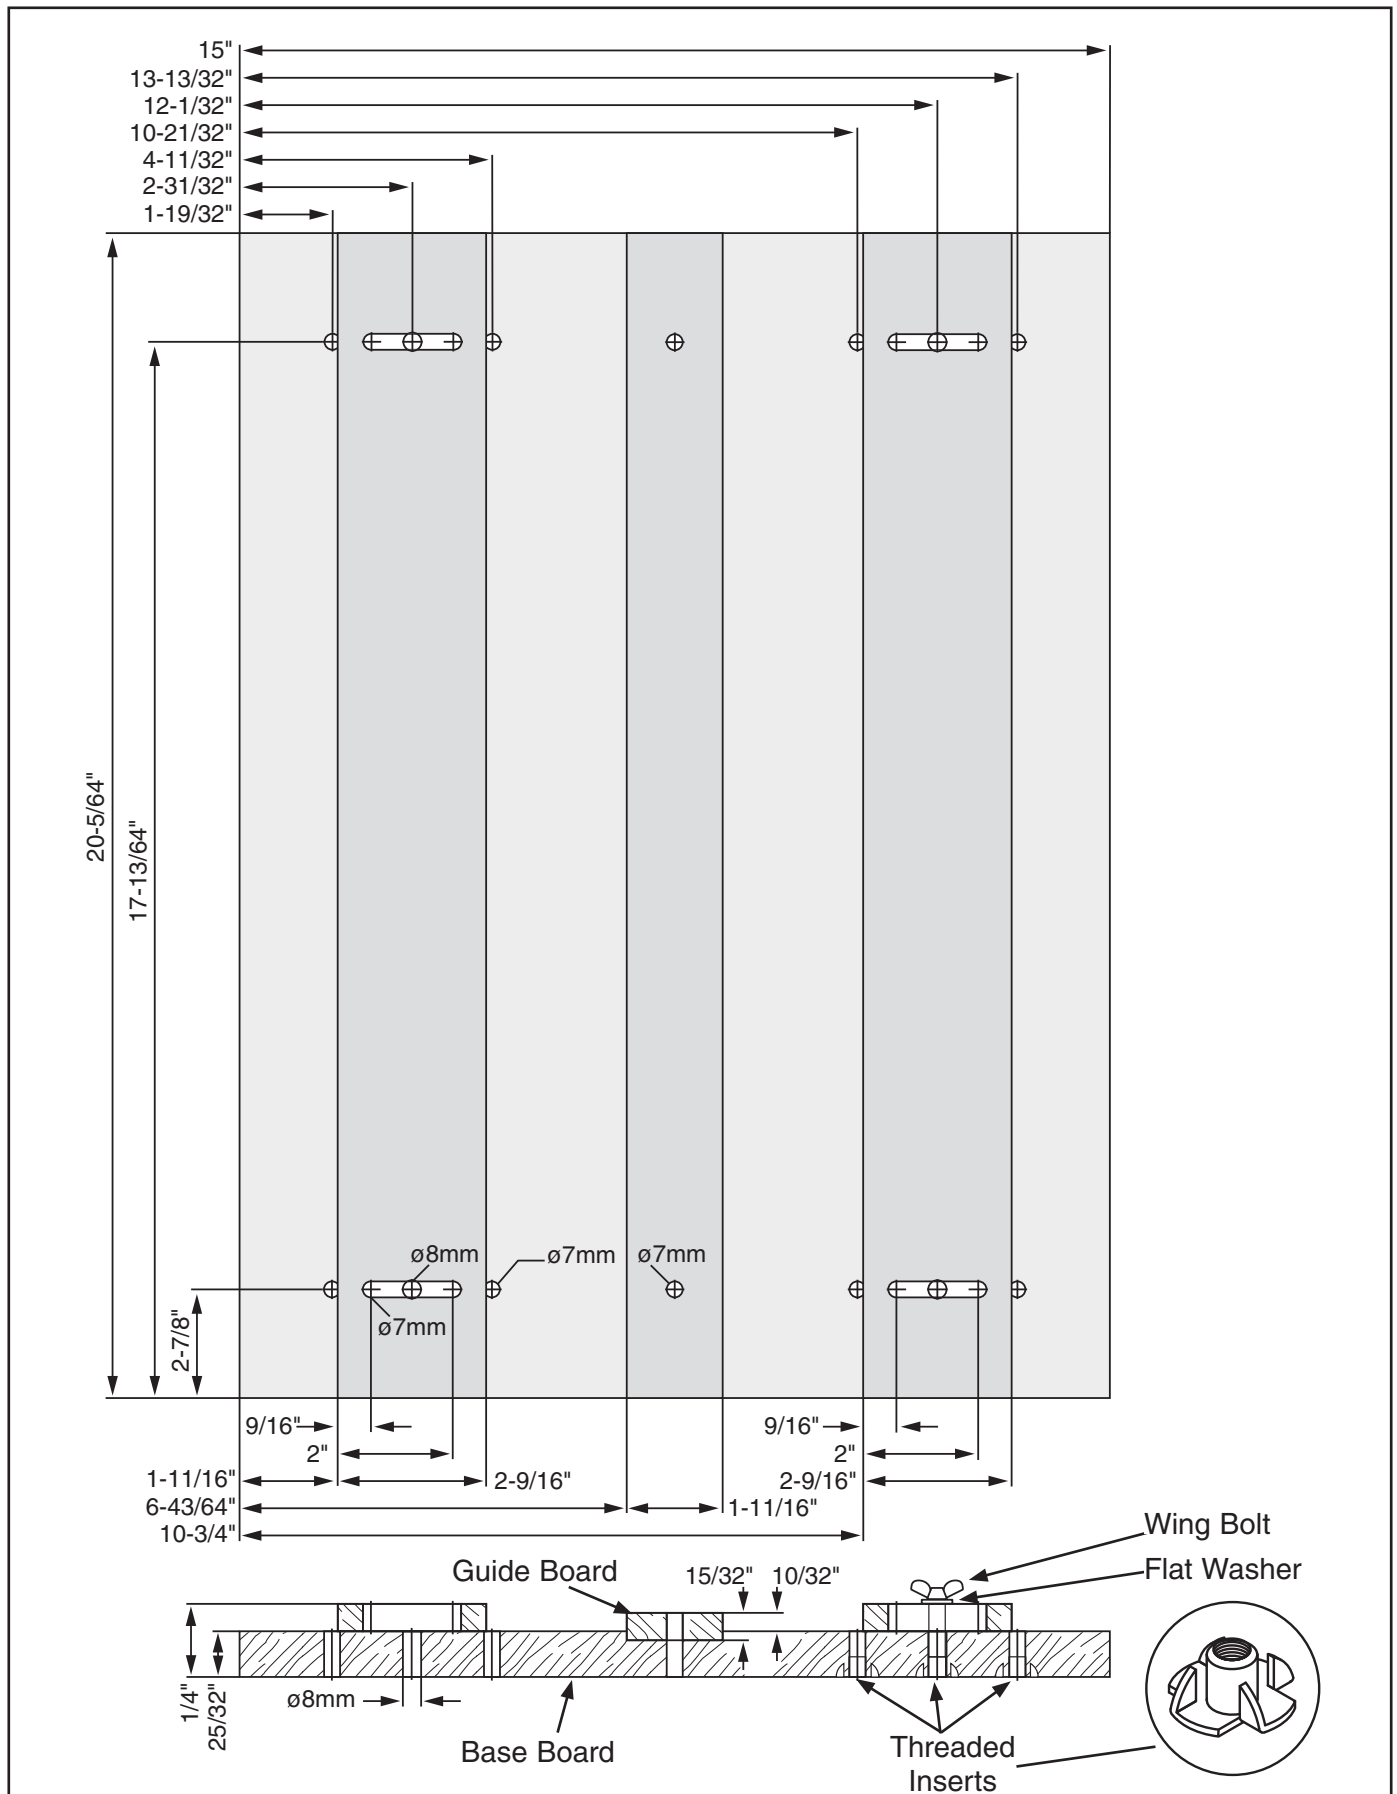

Figure 22. Guide Fence Plan (shown at approx. 30% size).
It is essential that you have a properly adjusted guide fence in place when moulding. **Figure 22** on **Page 22** features a plan for creating your own guide fence. We recommend using softwood or plywood for guide fence construction.
2. Ensure that the threaded inserts indicated in **Figure 22** on **Page 22** are firmly in place.
Certain moulding tasks require the workpiece to be oriented vertically, and thus extra-tall guide boards are needed. Follow the plan shown in **Figure 22** on **Page 22**, but increase the width of the center guide and the guide boards from $\frac{1}{2}$ " to to 1".